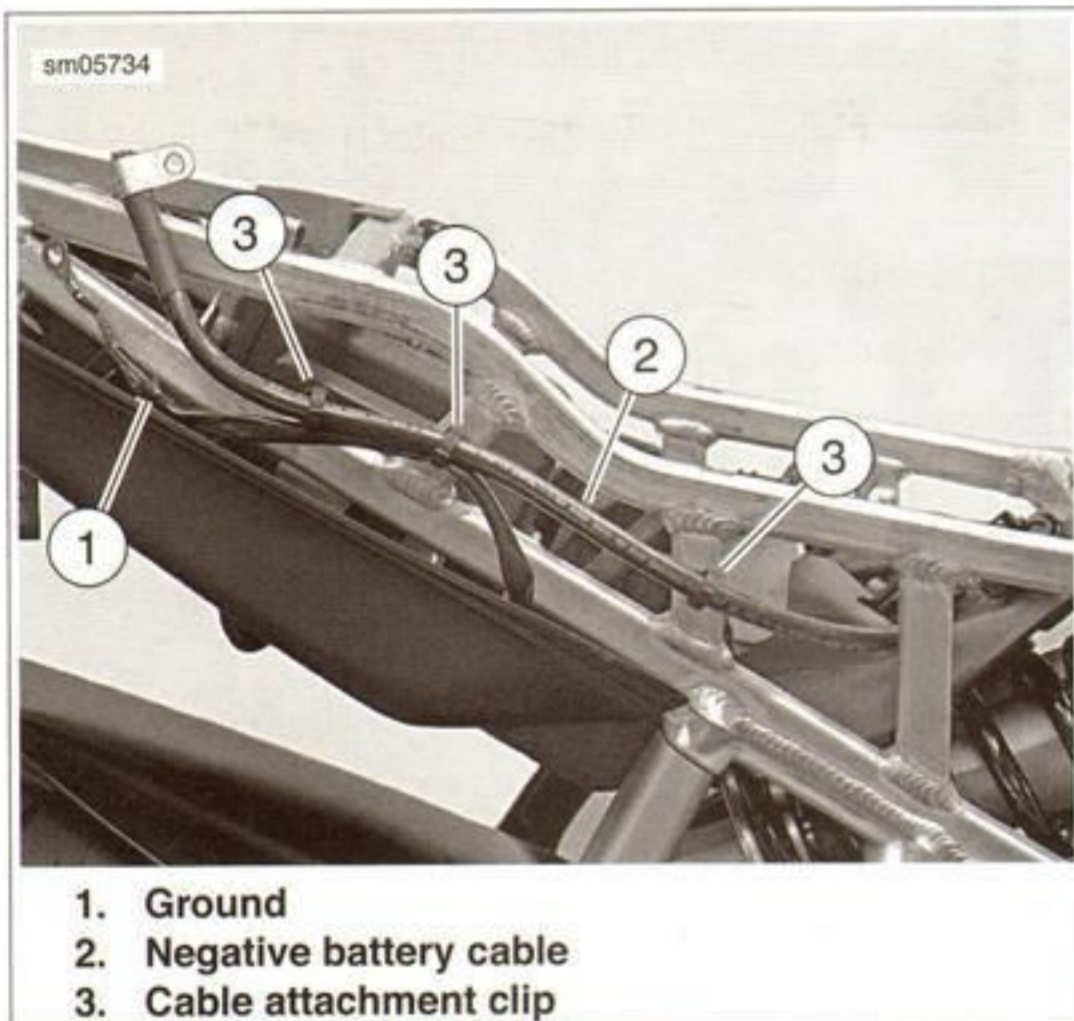

Figure 7-16. Negative Battery Cable Routing
3. See Figure 7-16. Loop the cable out under the cable guide and through the subframe.